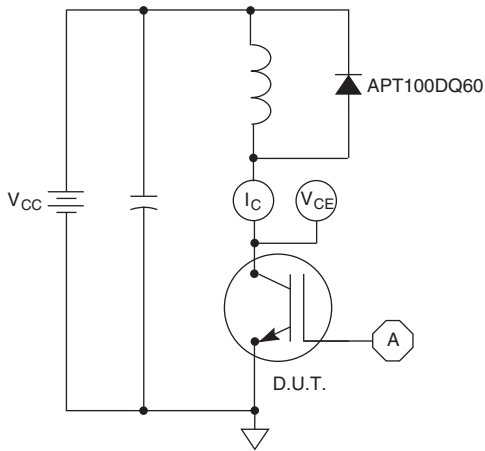

Figure 21, Inductive Switching Test Circuit
① Repetitive Rating: Pulse width limited by maximum junction temperature.
② For Combi devices,  $I_{ces}$  includes both IGBT and FRED leakages.
③ See MIL-STD-750 Method 3471.
④  $E_{on1}$  is the clamped inductive turn-on energy of the IGBT only, without the effect of a commutating diode reverse recovery current adding to the IGBT turn-on loss. Tested in inductive switching test circuit shown in figure 21, but with a Silicon Carbide diode.
⑤  $E_{on2}$  is the clamped inductive turn-on energy that includes a commutating diode reverse recovery current in the IGBT turn-on switching loss. (See Figures 21, 22.)
⑥  $E_{off}$  is the clamped inductive turn-off energy measured in accordance with JEDEC standard JESD24-1. (See Figures 21, 23.)
⑦  $R_G$  is external gate resistance not including gate driver impedance.